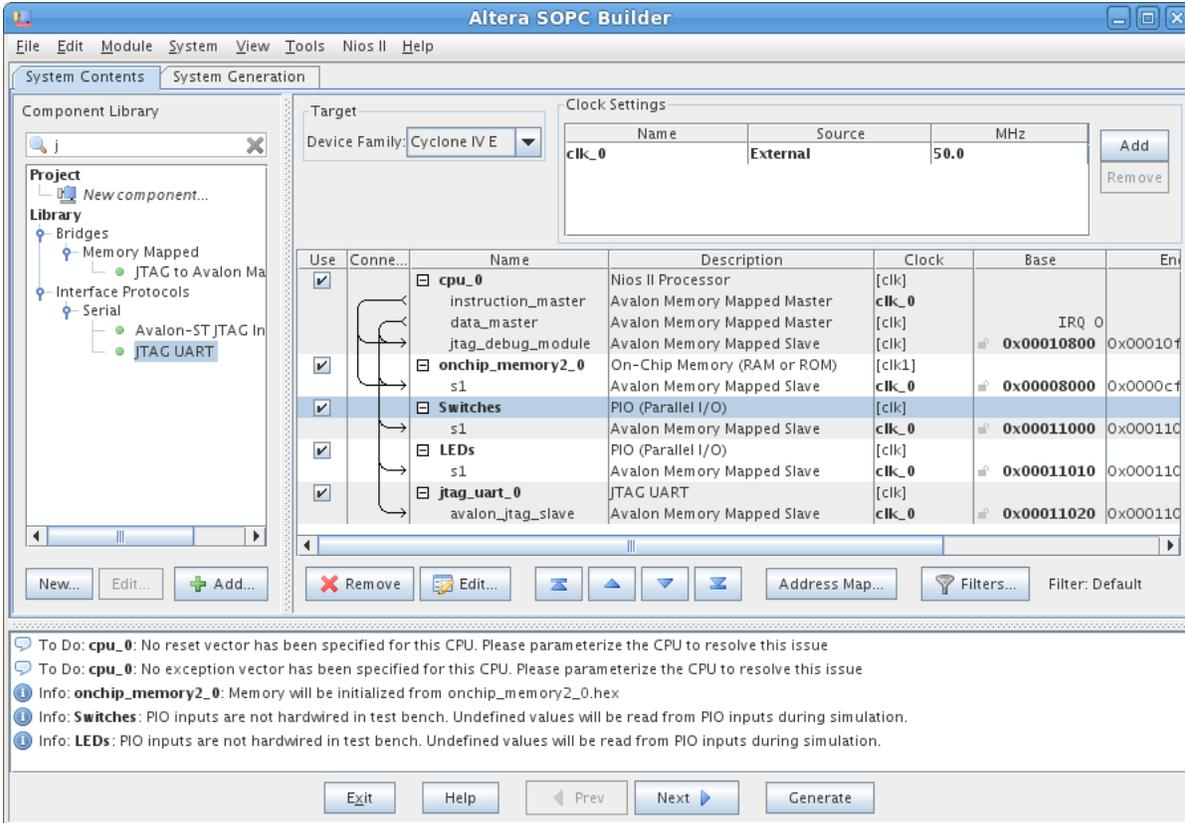

Figure 15. The final system specification.
11. The base and end addresses of the various components in the designed system can be assigned by the user, but the SOPC Builder can also assign them automatically. We will choose the latter possibility. So, select the command (using the menus at the top of the SOPC Builder window) System > Auto-Assign Base Addresses, which produces the assignment shown in Figure 15.